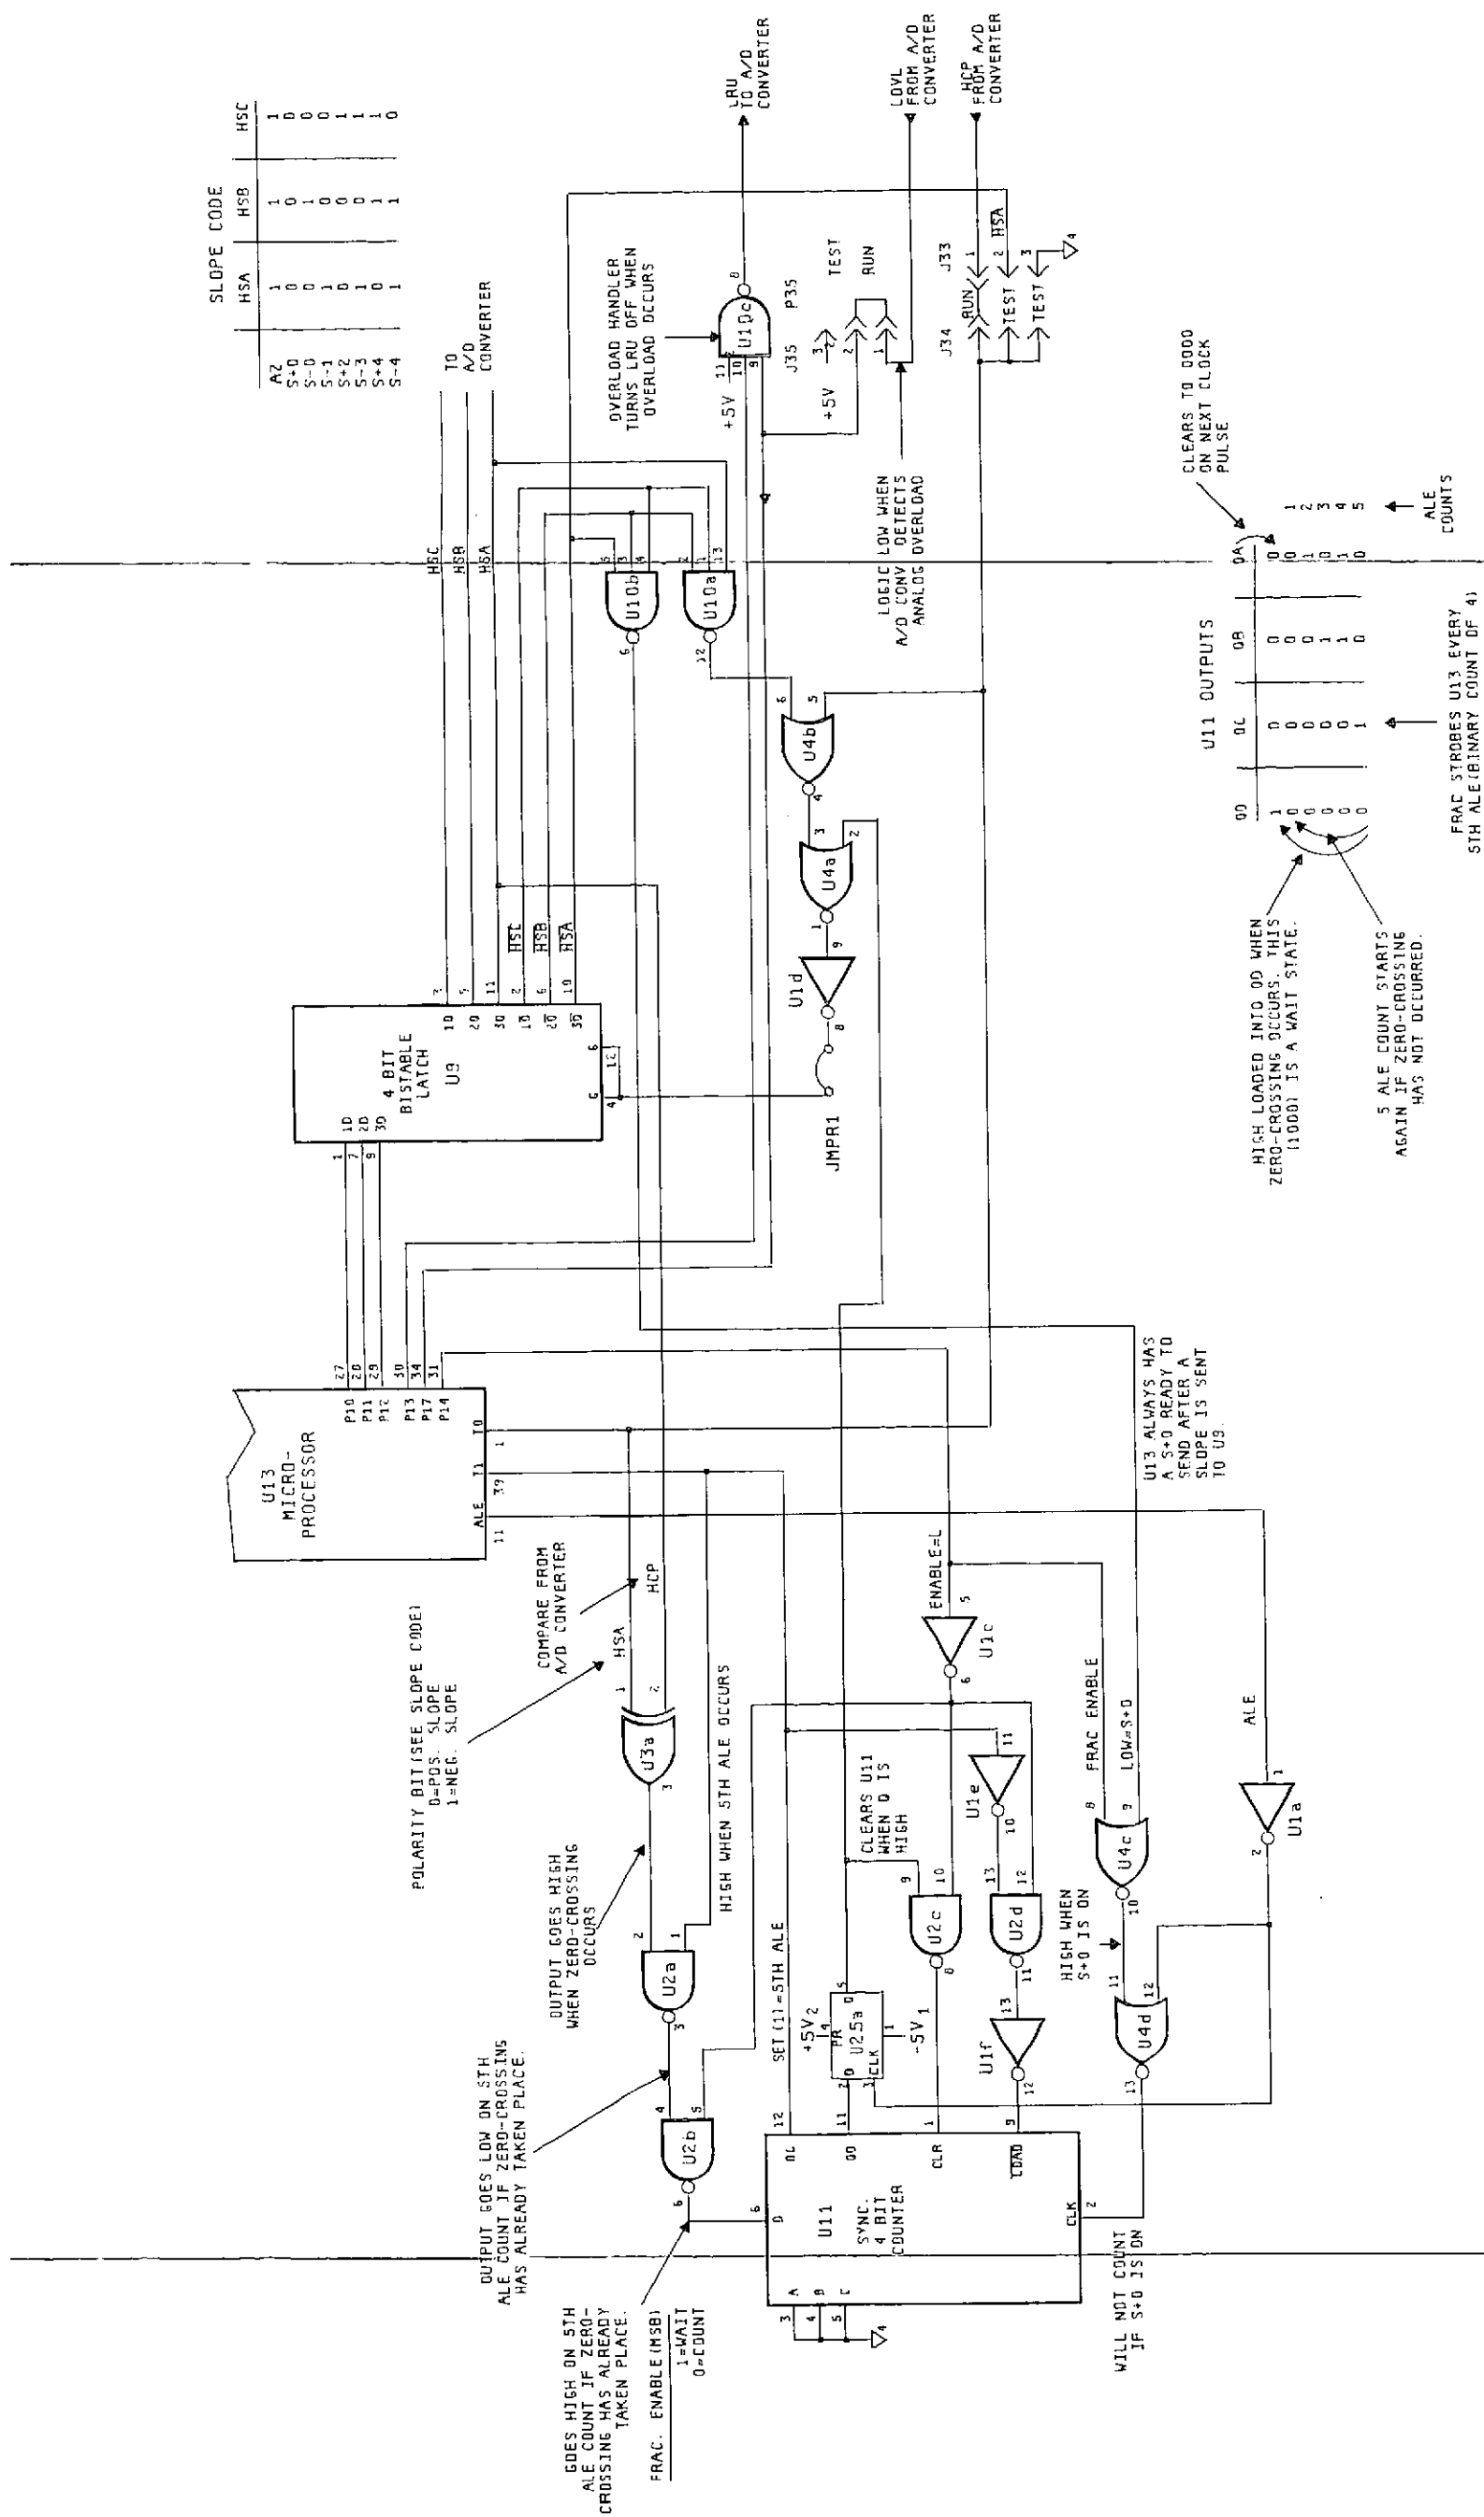

Figure 8-44. FRAC Circuits.
8-200. FRAC. Refer to Figure 8-44 (FRAC Circuits) for the following circuit discussion. The FRAC (Five Rndown ALE Counter) circuit is part of a large loop that includes the A13 μ P and the integrator/comparator circuits in the A/D Converter. The FRAC looks at both the polarity bit (HSA) from U13 and the comparator bit (HCP) from the A/D comparator during rundown. The HSA and HCP logic levels contain slope information which FRAC uses to start or stop the slope in the integrator circuit. The FRAC counts the time the slopes are on by strobing the μ P's internal counter (U13, pin 39) on every 5th ALE during rundown, if an $S \pm 4$, $S - 3$, $S + 2$, or $S - 1$ slope is on. Each time period between these strobes is equal to one A/D count, therefore 5 ALE's equal one A/D count (12.82 microseconds for 60 Hz, 15.38 microseconds for 50 Hz). The μ P counts these A/D time periods during rundown and computes the measurement value.
8-211. FRAC Circuit Description. Refer to Figure 8-44 (FRAC Circuit) for the following circuit description. The FRAC is part of a large loop and the focal point of the FRAC circuit is U11, a 4-bit counter. A table showing the "Q" output states for U11, during FRAC's count-to-five routine, is shown in Figure 8-44. Only two of these outputs, QC and QD, are used for FRAC circuit operations.
8-212. The QC output goes high on the fifth ALE count. This high accomplishes the following three things: (1) Strokes the counter in the MP (U13, pin 39). (2) A high is applied (via U2a and U2b) to the "D" input of U11 (pin 6) if a zero-crossing has already occurred (see Figure 8-44). (3) A low is applied (via U1e, U2d and U1f) to the load input of U11 (pin 9). A low on the load input of U9 causes U11's outputs (QD, QC, QB, and QA) to agree with the setup data on pins 6, 5, 4, and 3 when the next ALE pulse (clk input) occurs. The outputs will be 1 0 0 0 if a zero-crossing had occurred (see U11 Output Table).
8-215. The polarity bit line (HSA) is one of the inputs to U3a (pin 2). The other input line is the HCP line from the A/D Converter (U3a, pin 1). To follow the operation of U3a for each type of slope, refer to the 3-bit slope code (HSA, HSB, HSC) in Figure 8-44. For example, when the HSA polarity bit is "0", the HCP line will go high when zero-crossing occurs. The output of U3a goes high with these inputs.
8-220. RUNUP. Refer to Paragraph 8-54 in the A/D Converter section for background information regarding Runup and to Figure 8-44 for the following discussion. Codes for $S\pm 4$ slopes and $S\pm 0$ dead-count periods are the only slope codes generated by the Inguard μ P (U13) during Runup. The enable line to pins 4 and 12 of latch U9 are held high during runup so the data from U13 is passed through to the A/D Converter circuits without enabling commands. The LRU (Low True, Runup) level from NAND gate U10c is an enabling signal for the A/D Converter circuits used during runup. This logic low is on for the entire Runup period (high from U13 pin 30, high on the LOVL line from the A/D Converter, and the high level on pin 11 provide this logic low).